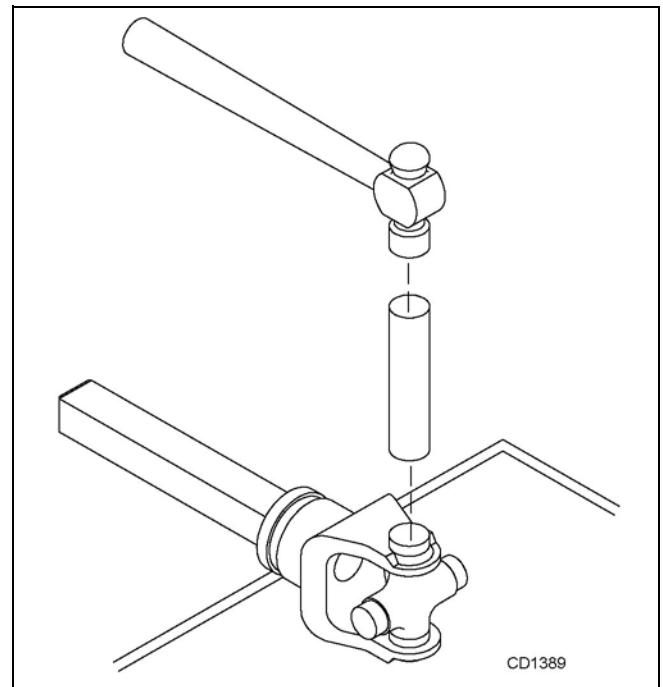

Figure 27. Install Cups
3. Seat cups by placing a drift or socket (slightly smaller than the cup) on cup and rap with a hammer. See Figure 27. Install snap ring and repeat on opposite cup